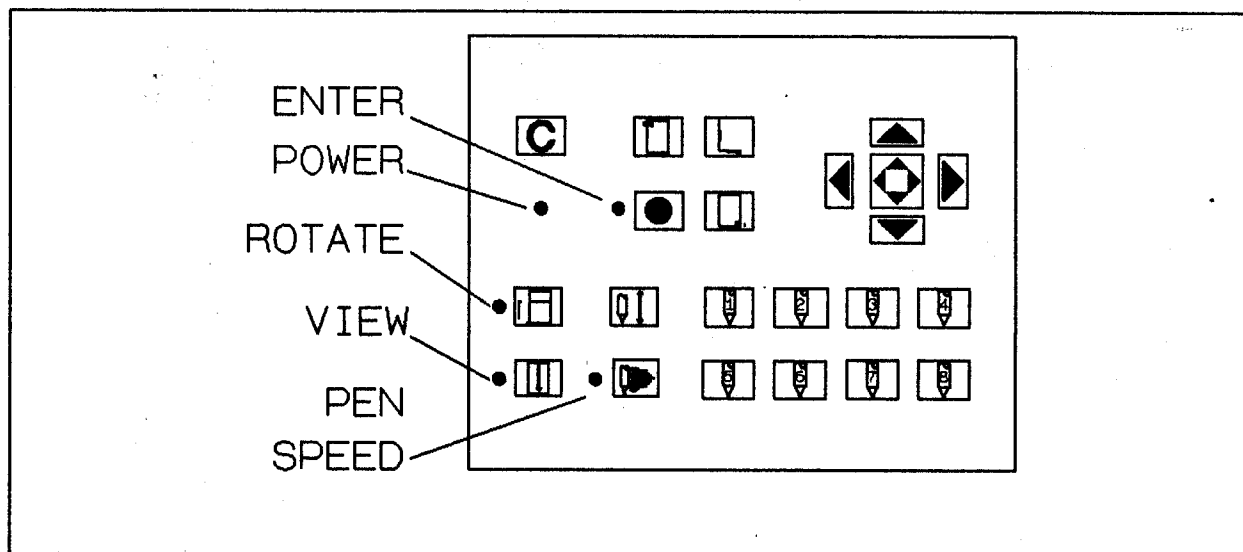

Figure 3-7. Front Panel LEDs
3-31. When ac line voltage to the plotter is turned ON (I) a series of built-in tests are automatically performed to verify proper plotter operation. The test sequence will run either to completion, at which time normal plotter operation will begin, or to an error condition. An error will cause the test to stop, which prevents normal plotter operation. The front panel LEDs will display failure information. See Figure 3-7. Two possible error conditions may be displayed. In the first, the LED failure display will be flashing on and off. This indicates that the test circuitry received bad data from a particular portion of the circuitry. In the second condition, the LED error display will remain on steadily. This indicates no response from some portion of the circuitry. The only exit from an error condition is to turn OFF (O) ac power to the plotter. Diagnostic information is listed with the test steps in Table 3-3.
3-47. There are five LEDS on the front panel to indicate various conditions to the operator. See Figure 3-7 for the indicator locations. The indicators are: